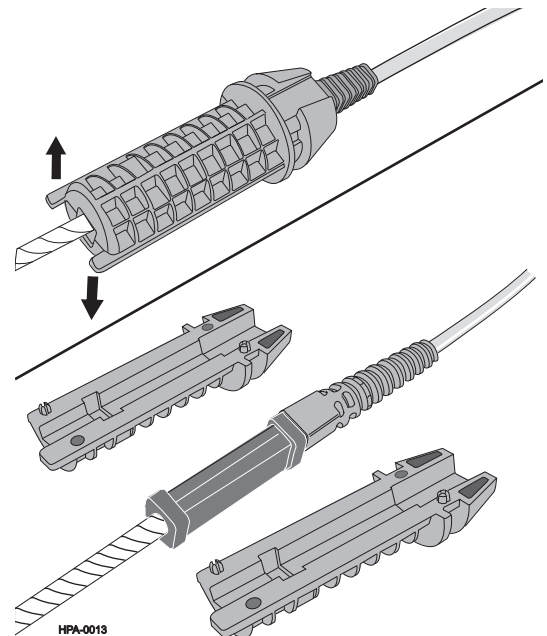

Figure 9 — Remove Coupler Halves
Step 7: Remove the coupler halves from the trunk furcation body and dispose of the coupler assembly (Figure 9).